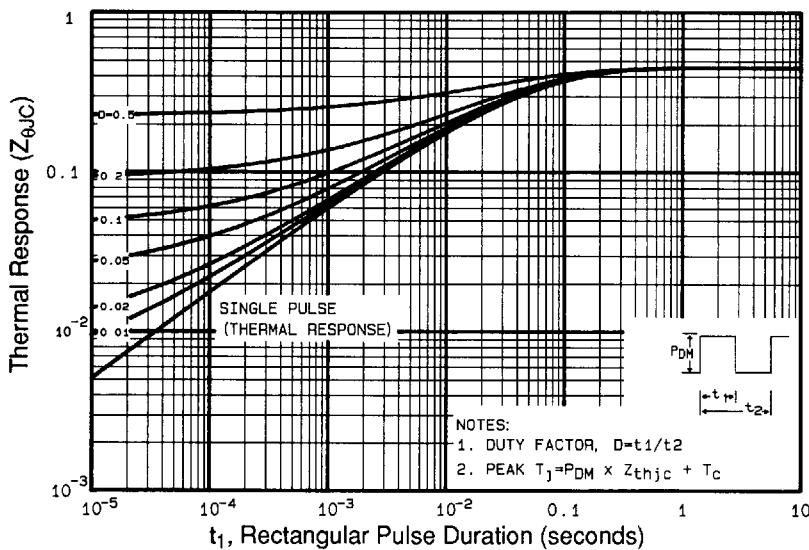

Fig 11. Maximum Effective Transient Thermal Impedance, Junction-to-Case
① Repetitive rating; pulse width limited by max. junction temperature (See Figure 11)
③ $I_{SD} \leq 20\text{A}$, $dI/dt \leq 160\text{A}/\mu\text{s}$, $V_{\text{DD}} \leq V_{(\text{BR})\text{DSS}}$, $T_J \leq 150^\circ\text{C}$